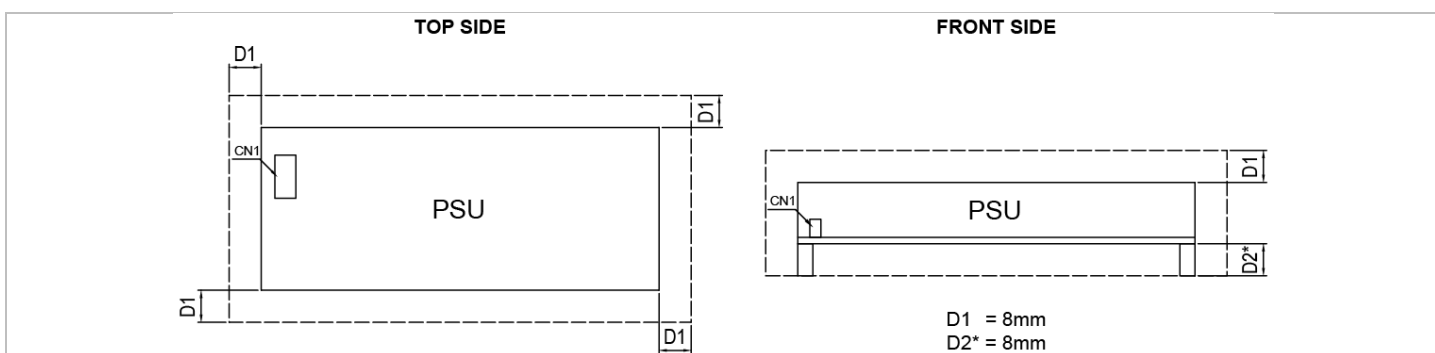

Fig. 3 Assembly Reference
- For safety reasons, please ensure the mounted device is kept at ≥ 8 mm (0.31 inch) safety distance at all sides from other components and equipments (Refer Fig. 3). Please insert an insulation sheet between the system and product, if the safety distance is less than 8 mm for D2*.